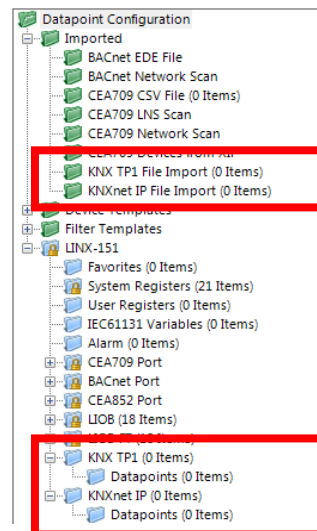

Figure 246: Data Point Manager Dialog with KNX import and device folders.
- The folder list (Figure 246),